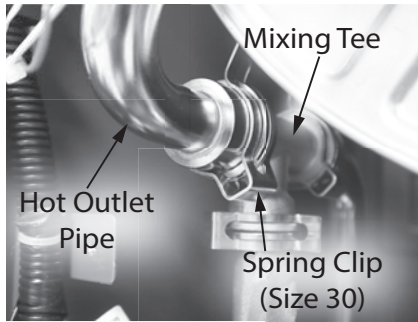

Figure 237 - Mixing tee location
- 22** Locate the hot outlet pipe and mixing tee connection shown in Figure 237. Remove the spring clip (size 30) and set aside in a safe place for reinstallation.